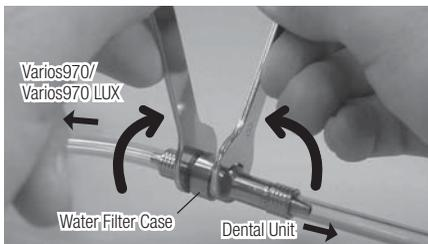

Fig.40
- 2) Mount two Spanner Wrenches (5x8) and turn those as shown in Fig.40.